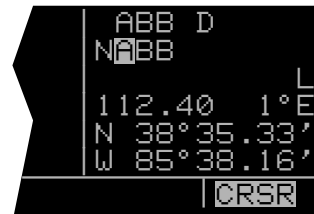

Figure 3-79
- Turn the right outer knob one step clockwise and then use the right inner knob to enter the second character, "A" (figure 3-79).